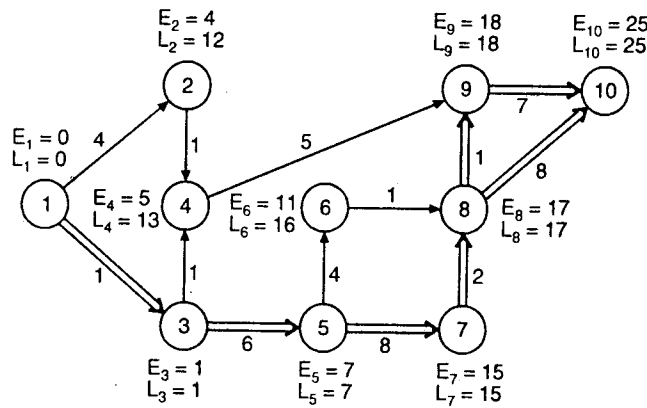

Fig. 25.27
**Solution.** The network is constructed as given in Fig.25.27 :